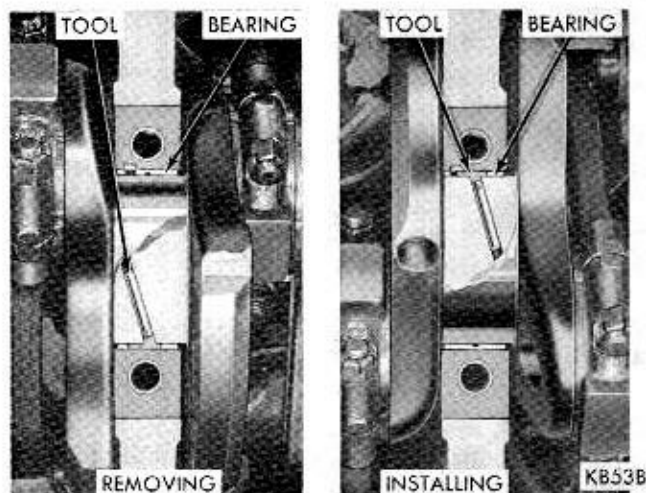

Fig. 33—Removing or Installing Upper Main Bearing
(1) Remove oil pan and identify bearing caps before removal.
(2) Remove bearing caps one at a time. Remove upper half of bearing by inserting Tool C-3059 (Fig. 33) into oil hole of crankshaft.
(3) Slowly rotate crankshaft clockwise, forcing out upper half of bearing.
(1) Start bearing in place, and insert Tool C-3059 into oil hole of crankshaft (Fig. 33).
(2) Slowly rotate crankshaft counter-clockwise sliding the bearing into position. Remove Tool C-3059.